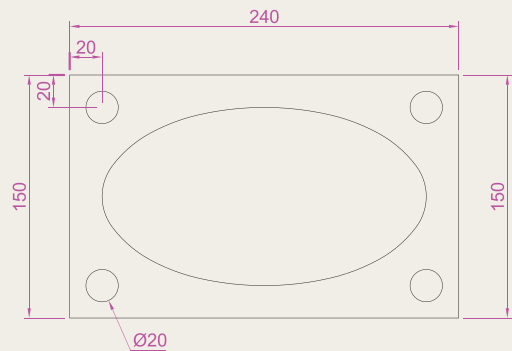

Fig. 3.48 Exercise 4
4. With the **Line**, **Circle** and **Ellipse** tools construct the drawing shown in Fig. 3.48.